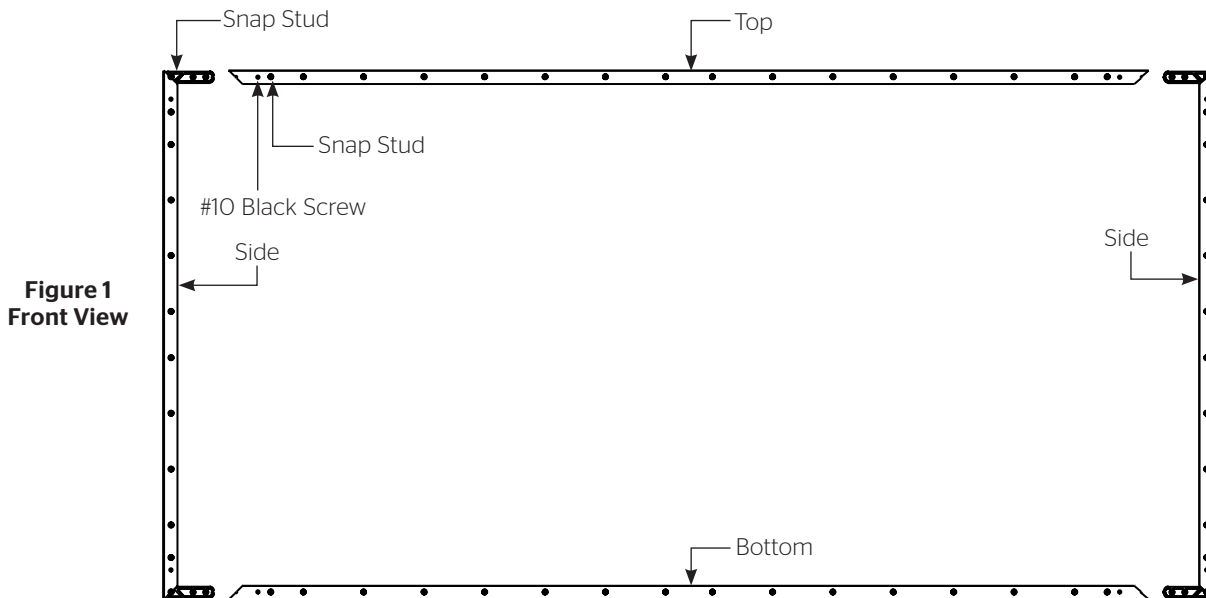

Figure 1
2. Slide the frame pieces together at corners. (Note: Frame assembly holes may not appear to fit properly at the corners until all fasteners have been attached. Once fasteners are attached, the frame corners will be drawn in for a proper fit). Secure frame pieces with #10 black screws provided. Do not tighten screws until all are started, and then tighten. See Figure 1.